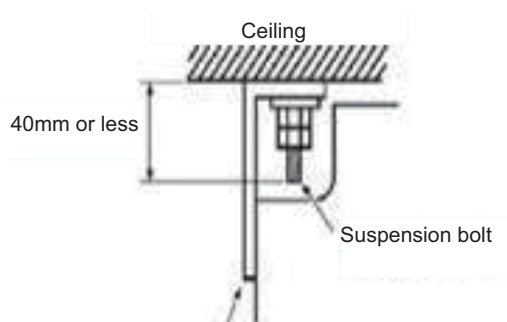

Figure 1-2-1
- ◆ Adjust the distance from the unit to the ceiling slab beforehand (Refer to Figure 1-2-1).